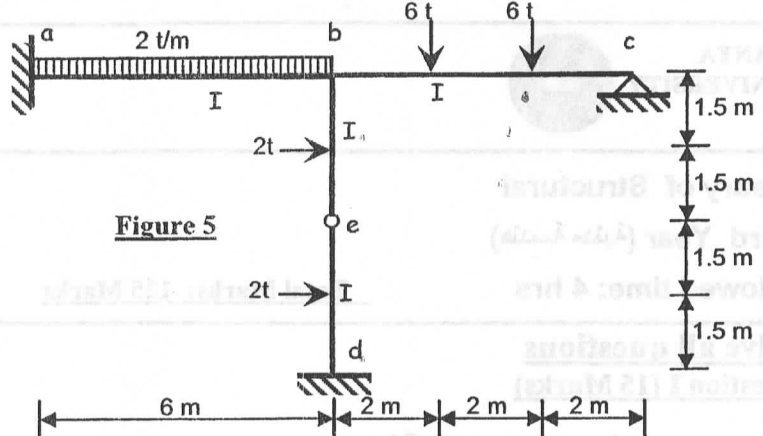

Figure 5
Using slope-deflection method, draw the B.M.D for the given frame in figure 5.
- Fig. 5 shows a structural plan of a roof supporting on six projected beams and six columns. The cross-section of all supporting beams is 250×700mm. A hollow-block slab system is required. Consider the following data: L.L= 6kN/m², cover= 1.5kN/m², St.400/600, f_{cu}= 30MPa. It is required to carry out the following: